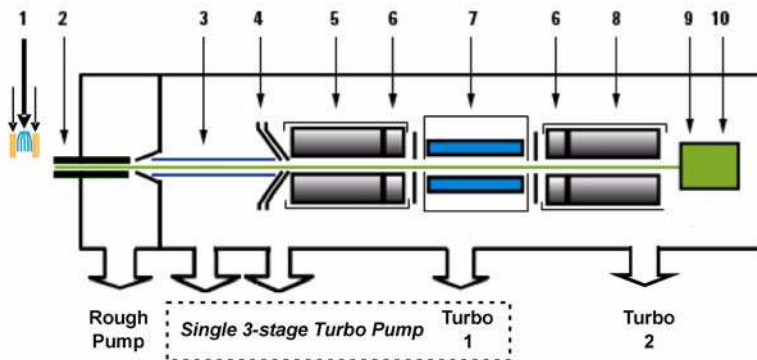

Figure 11 Multiple sources of noise
Triple quadrupole mass spectrometers exhibit multiple sources of noise, including noise from all chemical and cluster backgrounds and electronic noise (Figure 11).
The problem of noise must be addressed at several stages of the instrumentation from the ion source (1) to the detector (10) in Figure 11.
This section describes in more detail how each of the components of the Agilent 6400 Series Triple Quadrupole MS contributes to reducing noise (Figure 11).